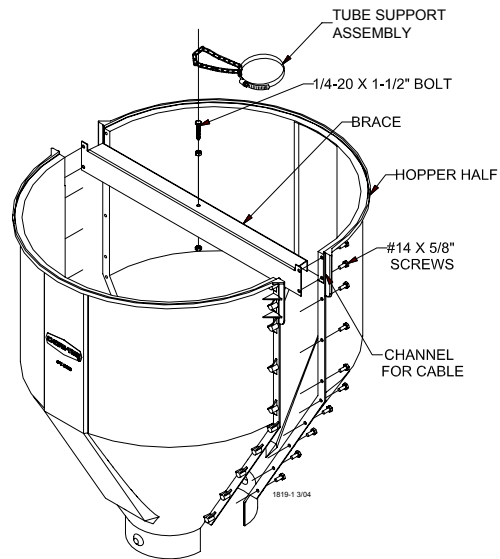

Figure 1.
2. Assemble the 1/4-20 x 1-1/2" bolt to the brace with two 1/4-20 nuts. One nut should be assembled under the brace with the other on top. This bolt is to provide a place for the tube support assembly chain to be hooked. See **Figure 1**.
3. Assemble the 150 lb. hopper halves and brace as shown in **Figure 1**, using #14 x 5/8" screws (supplied in hardware package).